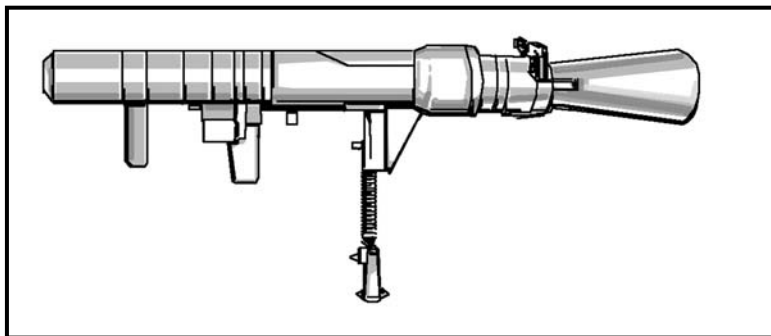

Figure H-7. Swedish 84-mm recoilless rifle, Carl Gustav M2.
b. **Swedish 84-mm Recoilless Rifle, Carl Gustav M2** (Figure H-7).